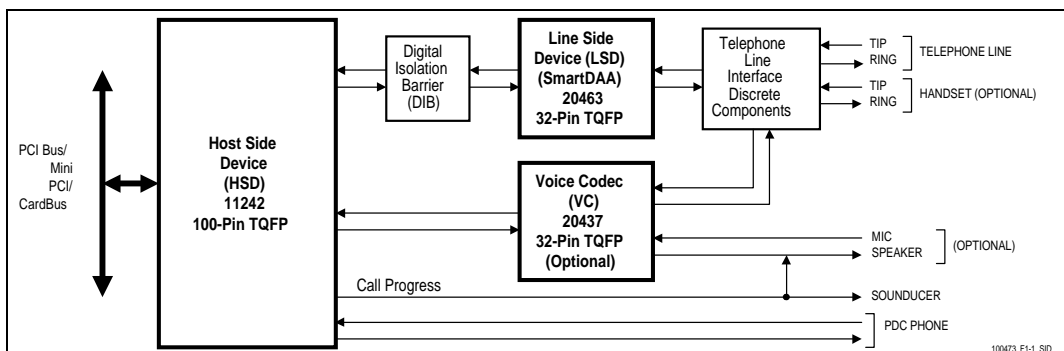
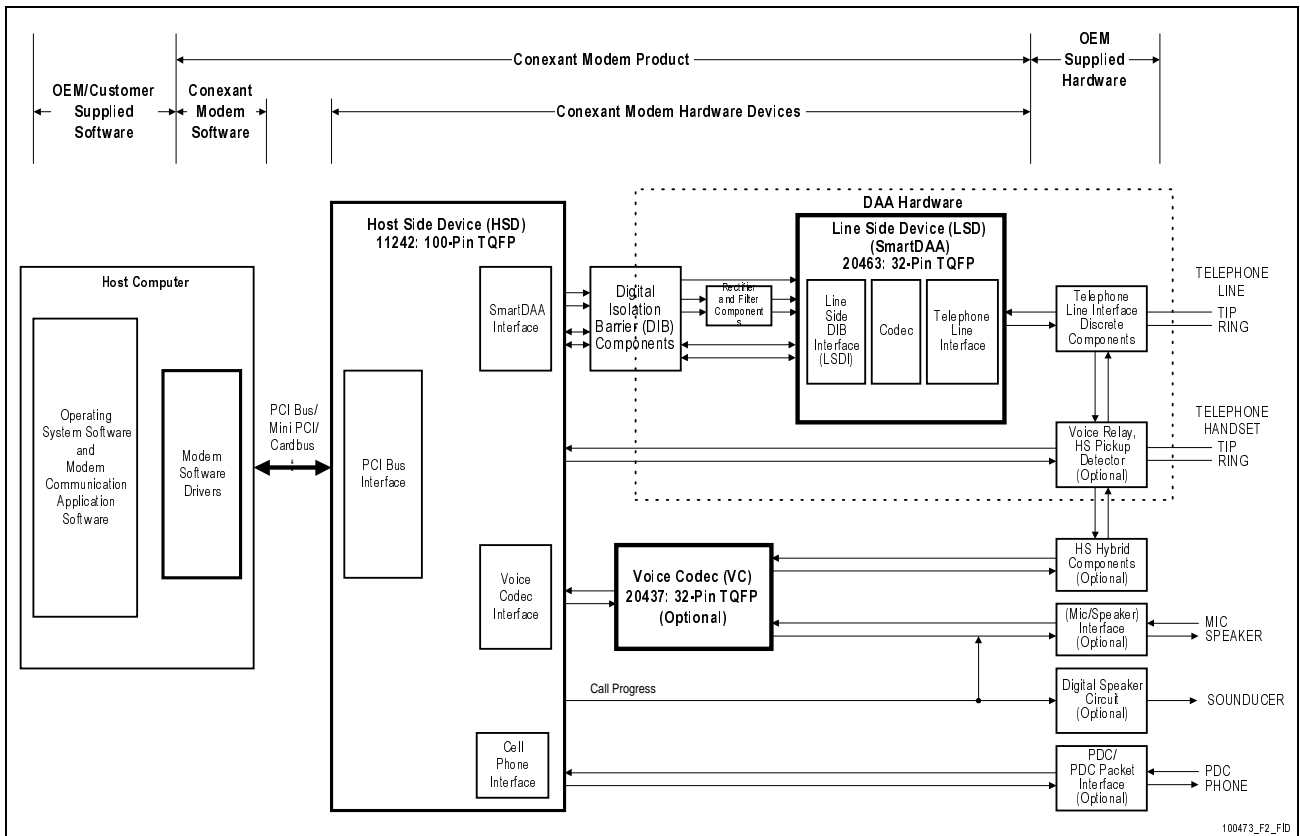

Figure 1. SmartHSF Modem Simplified Interface Diagram
Figure 2. SmartHSF Modem Major Interfaces
The SmartHSF device set, consisting of a Host Side Device (HSD) in a 100-pin TQFP and a Line Side Device (LSD) (SmartDAA device) in a 32-pin TQFP, supports data/fax/TAM operation with host software-based digital signal processing and cell phone/DAA/telephone line interface functions (Figure 1). The optional Voice Codec (VC), in a 32-pin TQFP, supports voice/full-duplex speakerphone (FDSP) operation with interfaces to a microphone, speaker, and telephone handset/headset. Figure 2 identifies the major hardware signal interfaces.